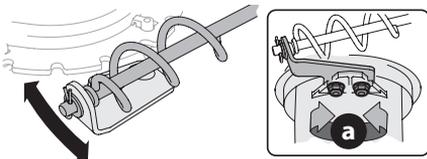

Figure 50
1. Loosen two nuts (a) which secure the bracket and reposition it slightly (Figure 50).